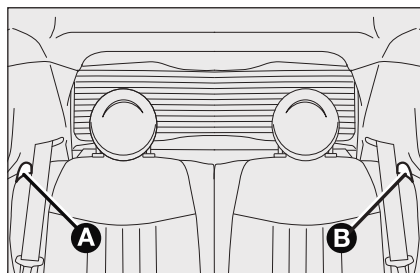

fig. 49
- ☐ operate levers **A** or **B**-fig. 49 to release respectively the left or right part of the backrest and guide the backrest onto the cushion.
- ☐ operate levers **A** and **B**-fig. 49 to release the backrests and guide them on to the cushion.